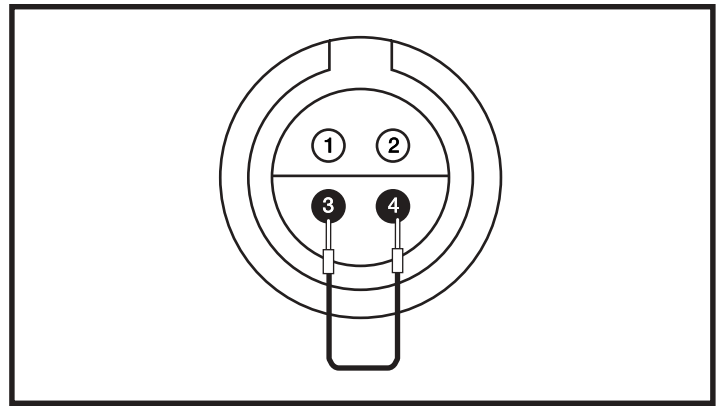
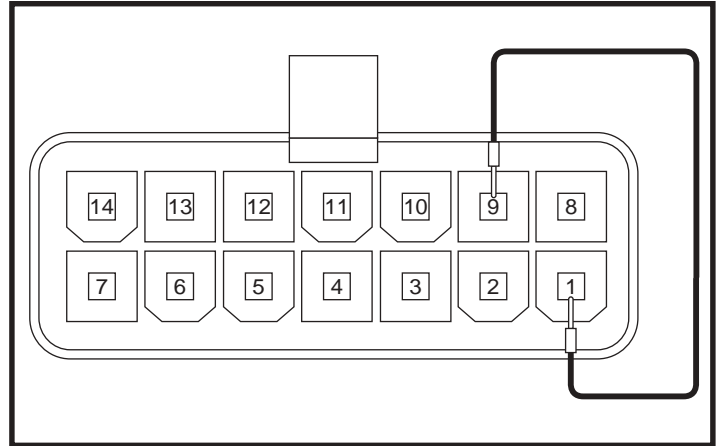
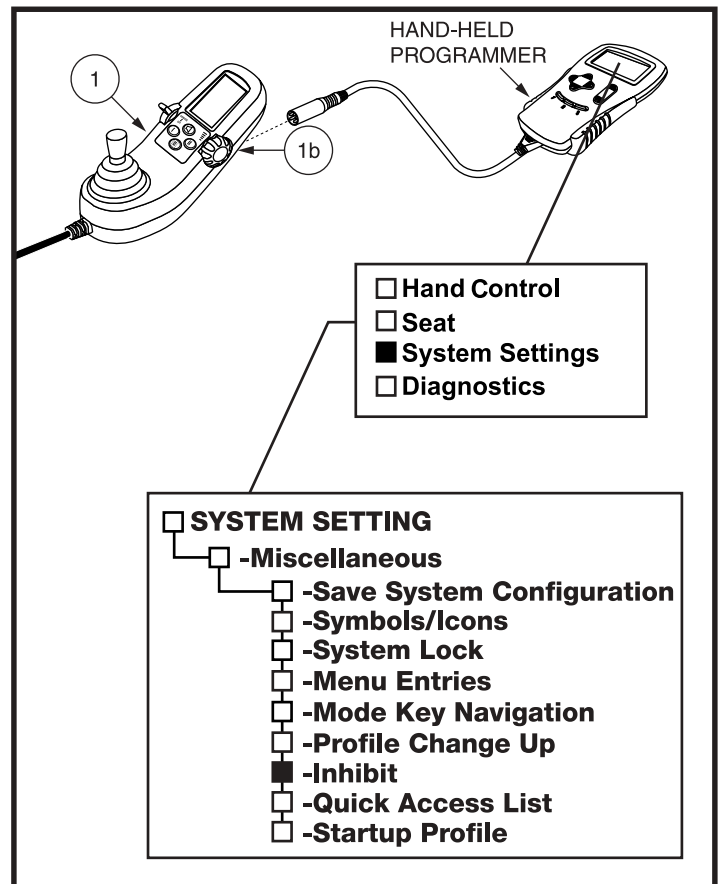

Figure 12. Connector 4a
Figure 13. Connector 2e
Figure 14. Inhibit Controller Programming
2. Place a jumper between pin 3 and 4 of connector 4a. See **figure 12**.
- *If the power chair drives and is not equipped with a power positioning system, then replace the run plug (11).*
4. Place a jumper from pin 1 to pin 9 on connector 2e. See **figure 13**.
- *If power chair drives, then replace the power take off/inhibit harness (4) (or 14-pin run plug (4c) if equipped) and retest the system.*
- *If the power chair does not drive, the power module may be programmed incorrectly. Verify the inhibit program. See **figure 14**. The inhibit should be set to “high.”*
- *If the power chair does not drive and the inhibit program was verified, then replace the power module (2) and retest the system.*